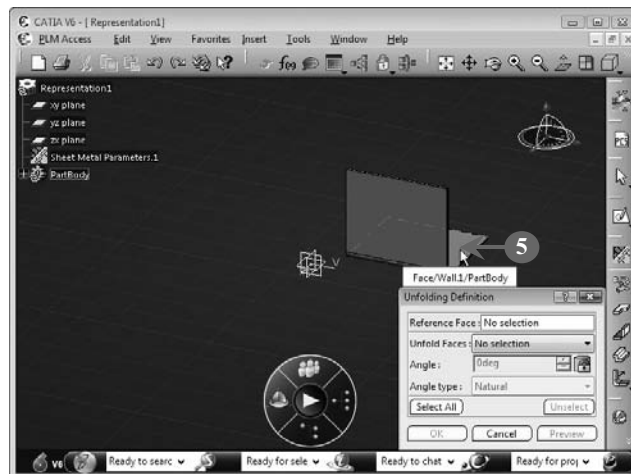

FIGURE 6.60
The **Unfolding Definition** dialog box opens (**Figure 6.60**).
5. Select the base wall, as shown in **Figure 6.60**: